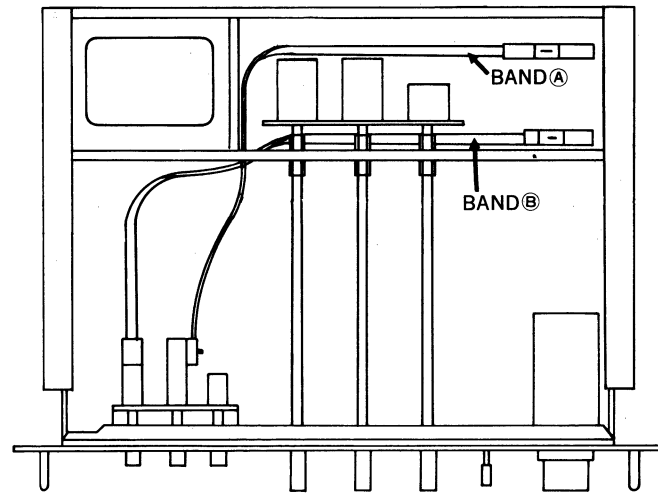

Fig. 4
Note: When attaching the remote-switch bands to the remote switch, attach so that BAND ② is on the lower side. (Refer to fig. 4)